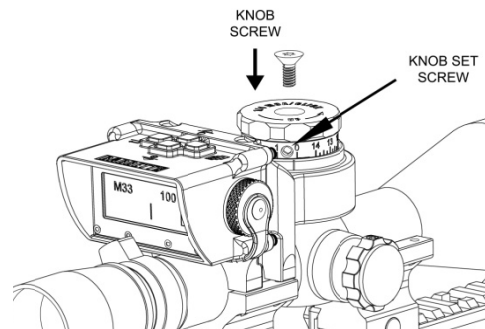

Figure 2-7
6. Place the BORS elevation knob over the knob adapter. Ensure the knob is fully seated on the adapter then secure with knob screw and tighten the Knob set screw (3/32in Allen). Figure 2-7.